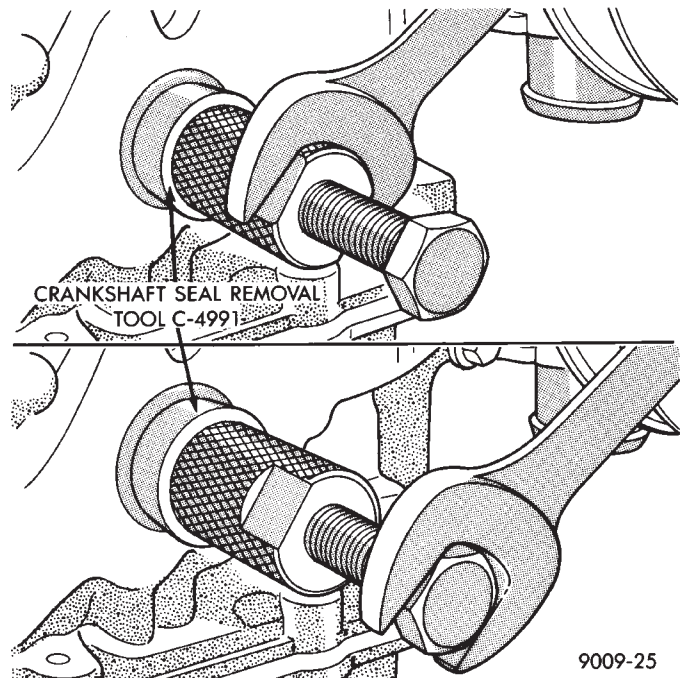

Fig. 9 Removing Crankshaft Oil Seal
- (4) Using Tool C-4991 to remove oil seal (Fig. 9). Be careful not to damage that crankshaft seal surface of cover.